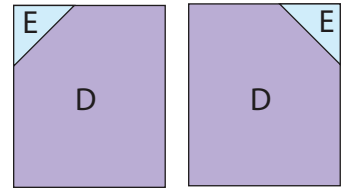

Fig. 21
20. Use the flip and sew method to add a 2 1/2" Fabric E square to the upper left corner of (1) 5 1/2" x 6 1/2" Fabric D square to make (1) large Left ED unit. Repeat to add a 2 1/2" Fabric E square to the upper right corner of a second 5 1/2" x 6 1/2" Fabric D square to make (1) large Right ED unit (Fig. 21).